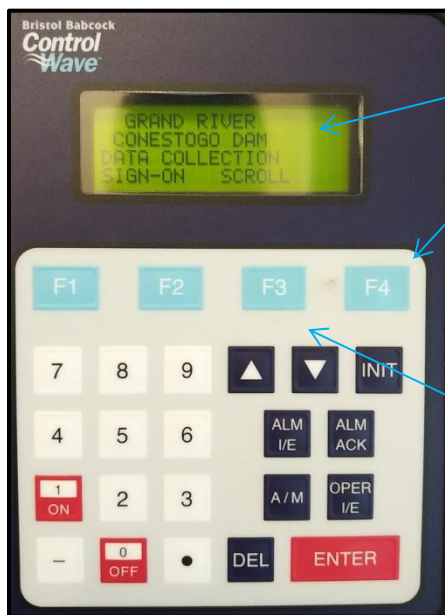

Fig 1
- To get all the river values, press the "F4" light blue button to exit screen. Then press "F3" button to allow screen to start the readouts. (Fig 1) The system will scroll through a couple different readouts i.e., lake level, lake storage etc. before it gets to the gauge readouts. When you get to the first gauge reading, which will be Moorfield, you can press "F1" to "Hold" level reading until you are able to fill out in your logbook and then "F2" to "Go" again to next reading. Continue holding and going until you have filled out all necessary readings in logbook. In winter months note if the gauge is under Ice Conditions. Fill in IC beside gauge value in logbook (Fig 2).